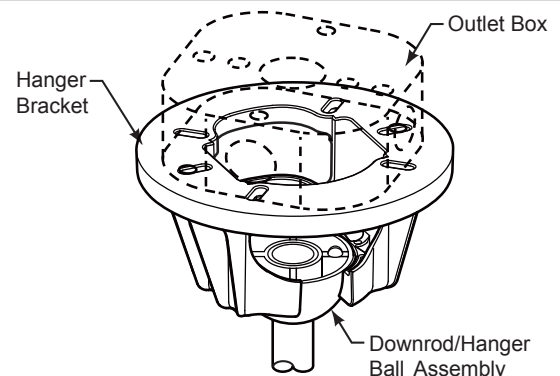

Figure 4
- ☐ **4.** Loosen the two set screws and locking nuts in the downrod support of the motor assembly. Route the brown, blue, red, gray and yellow wires through the downrod. (Figure 4)
- ☐ 3. Carefully lift the fan and seat the downrod/hanger ball assembly on the hanger bracket that was just attached to the outlet box. (Figure 4) Be sure the groove in the ball is lined up with tab on the hanger bracket. (Figure 3)
3. Connect wires using connectors as shown in Figure 4.